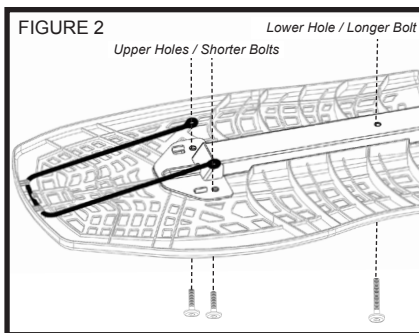

FIGURE 2
- Lift the pre-assembled Bed Frame Extension and slide the Lower Portion & Frame to seat it on top of the Upper Portion, aligning the bolt holes (Figure 2). Release the Bed Frame Extension so that it rests on top of the two upper holes.